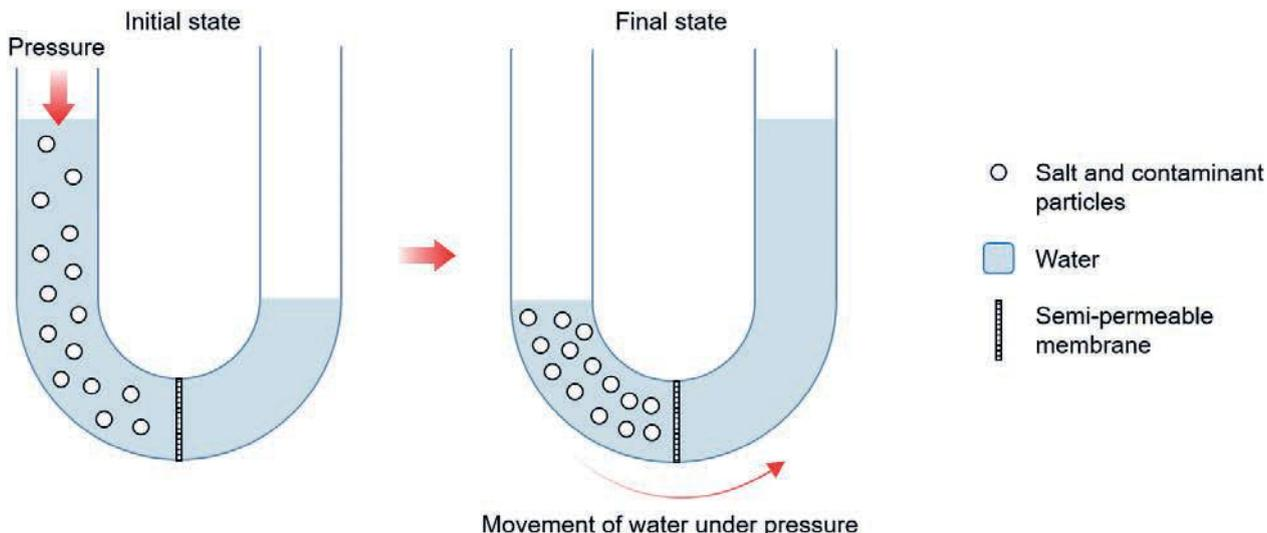

Figure 4.2.11: Reverse osmosis.
Reverse osmosis (RO) is a process which employs a semipermeable membrane to remove dissolved ions, molecules and suspended particles (depending upon size) from water. Pressure is applied to overcome the **osmotic pressure** (the pressure required to stop the natural osmotic flow), forcing the solute to remain on the pressured side of the membrane and water to shift to the other side of the membrane (Figure 4.2.11).